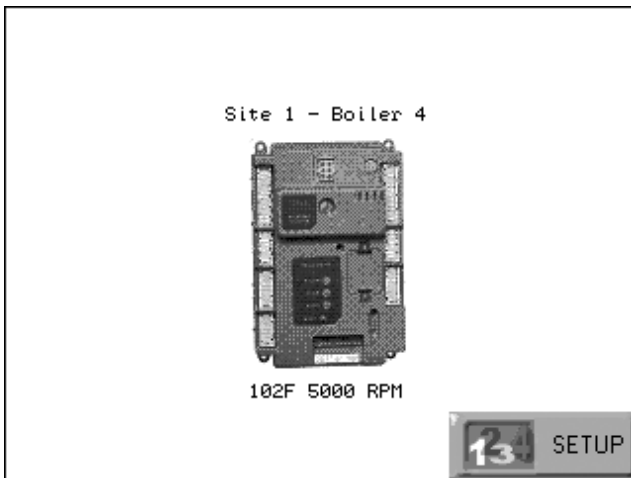

Fig. 1. S7999B1026 Home page.
4. Once the PM is installed, and the LED is blinking, the Backup or Restore functions are available. Going to the S7999 System Operator Interface Home screen (see Fig. 1) or going to the Configuration page on the S7999C Local operator interface and going to the display setup page.